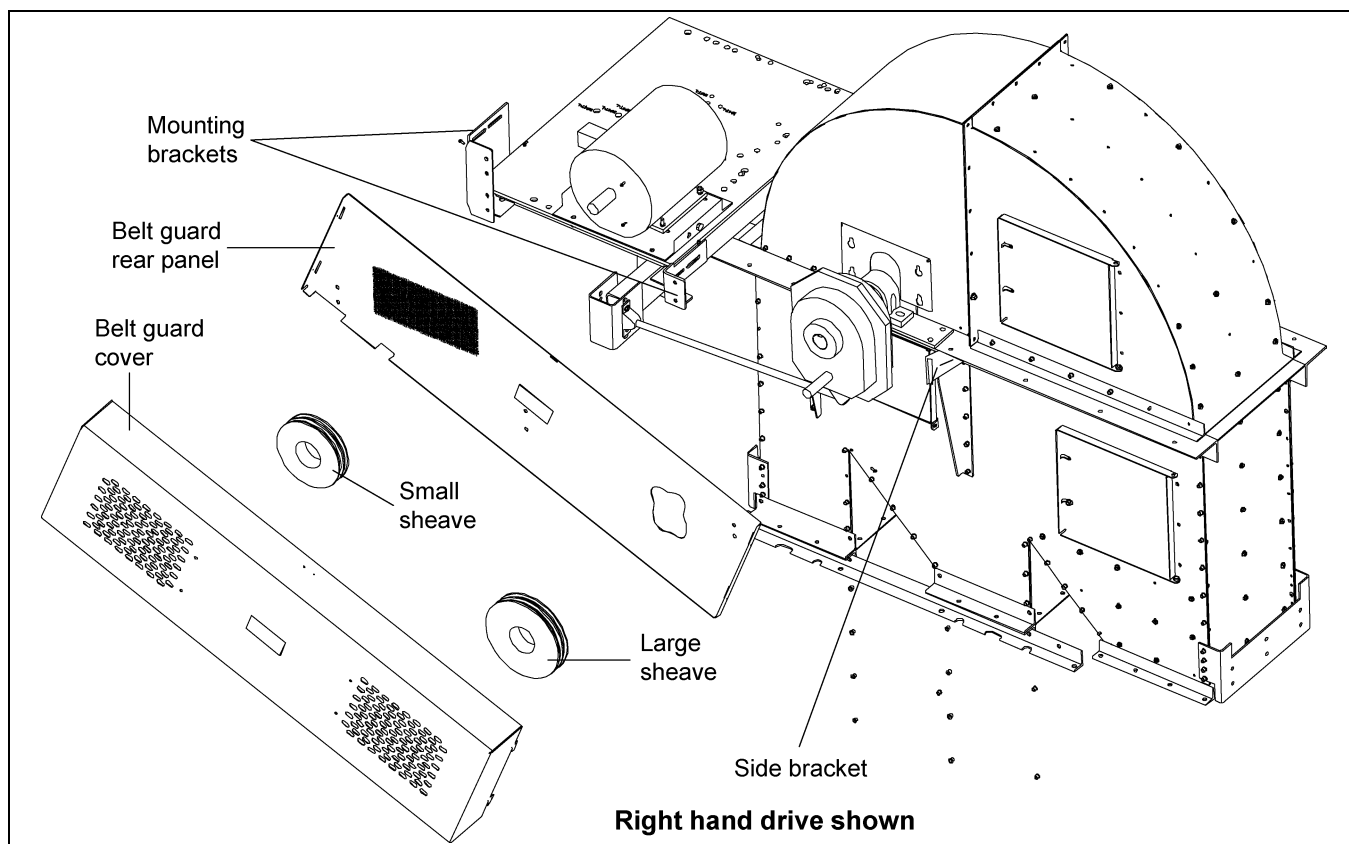

Figure 11F Belt Guard
1. Attach the drive guard brackets to the motor mount assembly. (See Figures 11F-11J on Pages 35-37.) The shorter, broken legs of the brackets will point towards the pulley.
2. Align the guard rear panel of the guard to the brackets. NOTE, in a right hand drive application (as shown in Figures 11F-11J on Pages 35-37) the flanges of the guard rear panel will face away from the head section, but in a left hand application, the flanges will point towards the head section.
8. Install the safety screen around the motor output shaft by approximating the hole location to the screen and snipping a clearance hole in screen. (See Figure 11F on Page 35.)